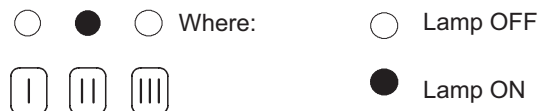

Figure 8.9
- 11 Press the reset button D once until the lamps F give the indication as in Figure 8.9 (useful output, second step).